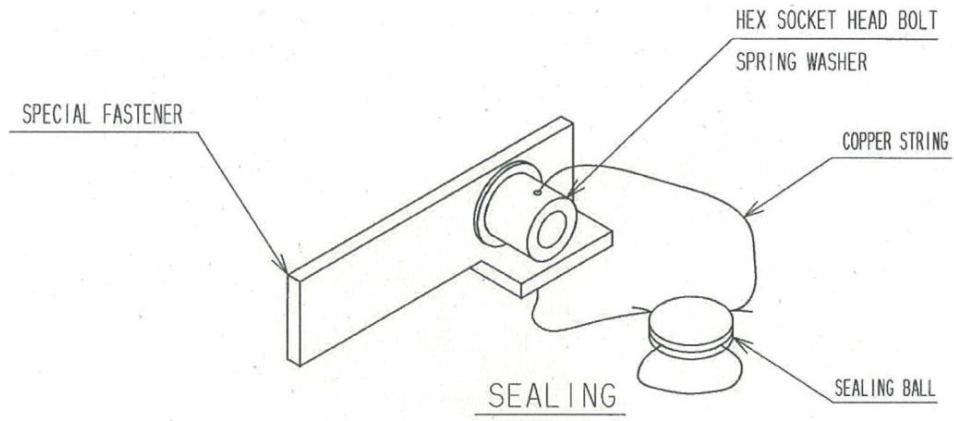

Fig. 5.: Sealing of the front lid
- Front lid of the transmitter with a wire and seal to prevent unauthorised access (see fig.5);